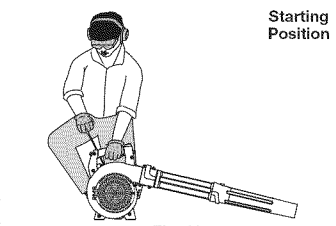

Fig. 10
WARNING: Avoid accidental starting. Make sure to be in the starting position when pulling the starter rope (Fig. 10). To avoid serious injury, the operator and unit must be in a stable position while starting.
5. **Do not squeeze the trigger.** Crouch in the starting position (Fig. 10). Pull the starter rope 5 times in a controlled motion.
5. Crouch in the starting position (Fig. 10). Insert the Speed Start™ accessory into the Speed Start™ port on the side of the unit (Fig. 25). Refer to the *Operation* section of the Speed Start™ accessory operator's manual.